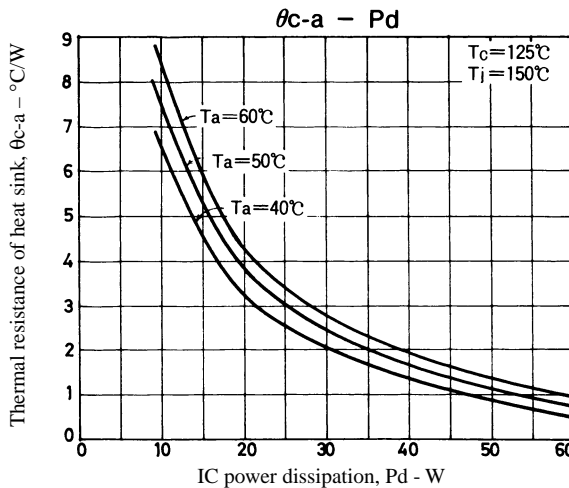

Figure 3. STK 4036V θc-a – Pd
Fig.3 shows the relation between Pd and θc-a given from (1) and (3) with Ta as a parameter.
The thermal resistance of a heat sink is obtained from Fig.3.